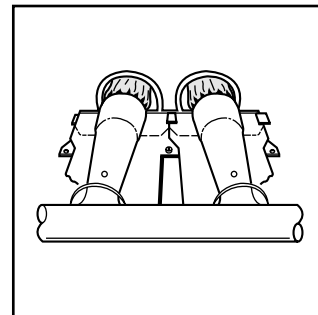

Fig. 5 - Burner Flame
- The burner flames are in good adjustment. (See Fig. 5.)